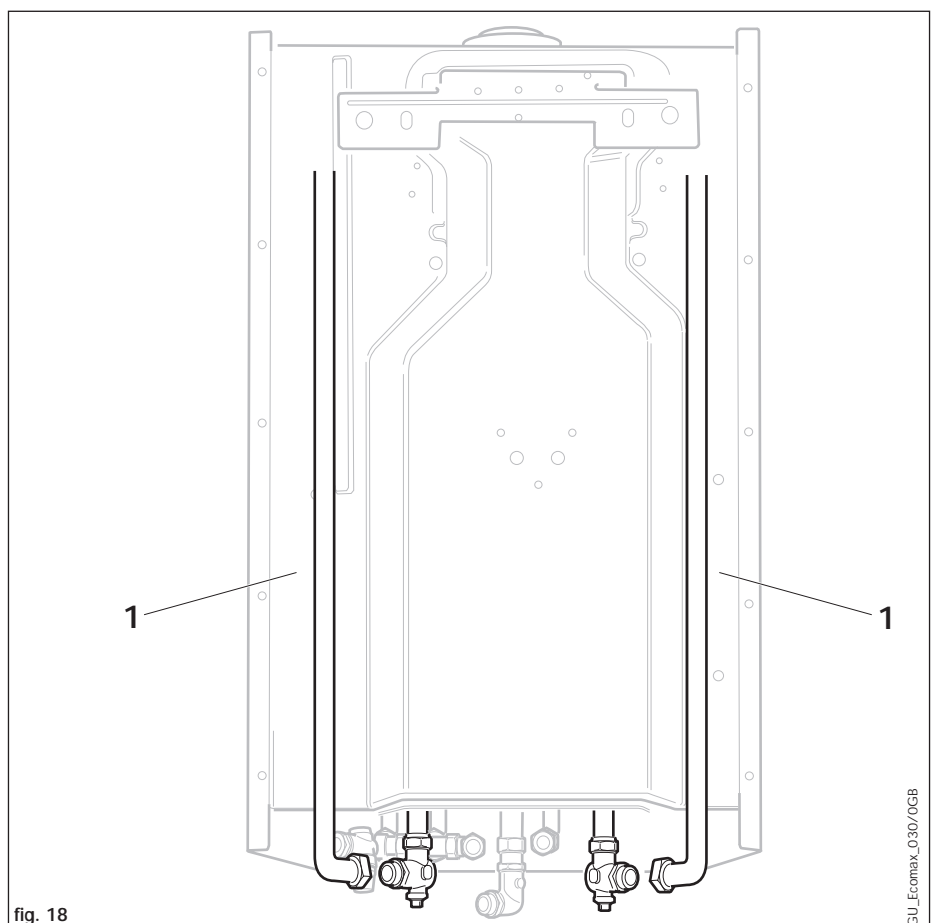

fig. 18
4.5.2.2 Top pipe work connection (fig. 18)
If it is desired to run heating and water pipework to above the boiler, the purpose provided voids at the rear left and right sides of the boiler may be used (1, fig. 18).